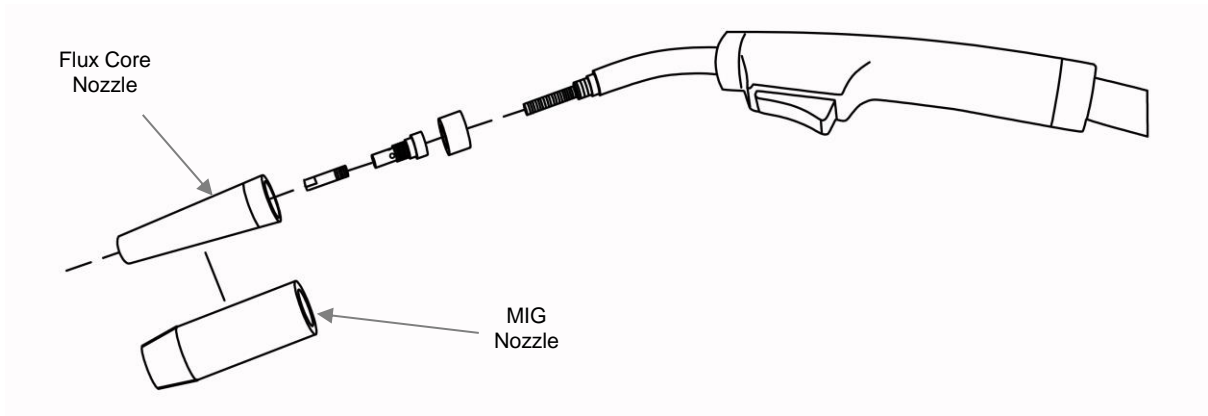

Figure 3
- i. Remove the nozzle and contact tip from the end of the torch assembly. See Figure 3.